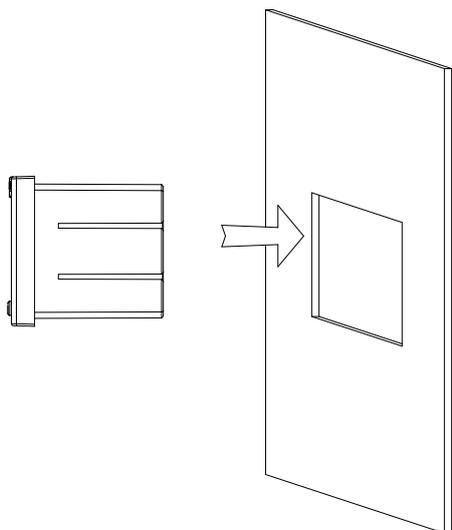

图 4
- 3) 仪表由前装入安装孔, 如图 4 所示;
- 3) The meter is loaded into the mounting hole from the front, as shown in Figure 4;